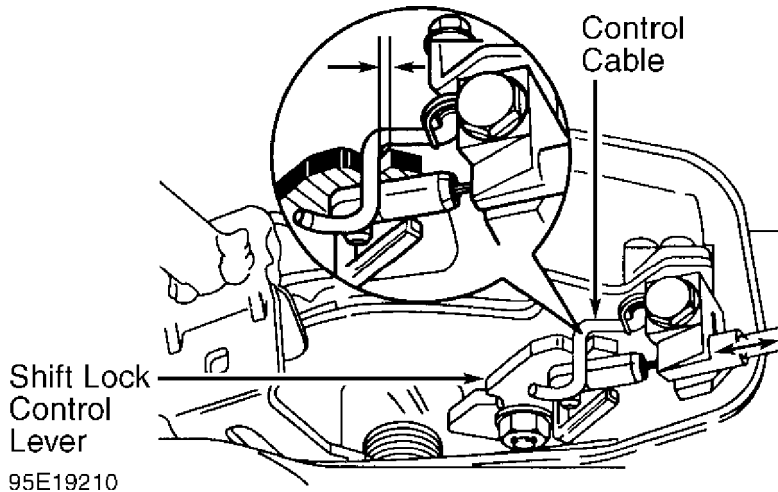

Fig. 2: Adjusting Shift Lock Cable
2) Clearance should be .028" (.70 mm). If clearance is not correct, loosen lock nut on shift lock cable sheath. Position shift lock cable lever to obtain correct clearance. Tighten lock nut. See Fig. 2. Tighten gear selector housing screws and install steering column covers.